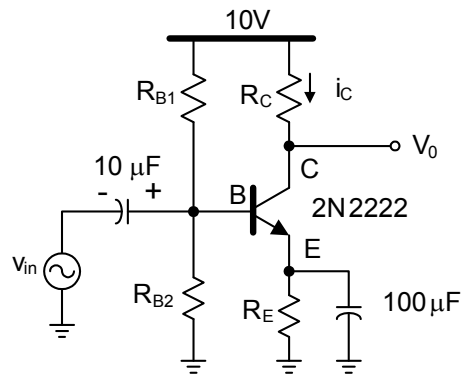
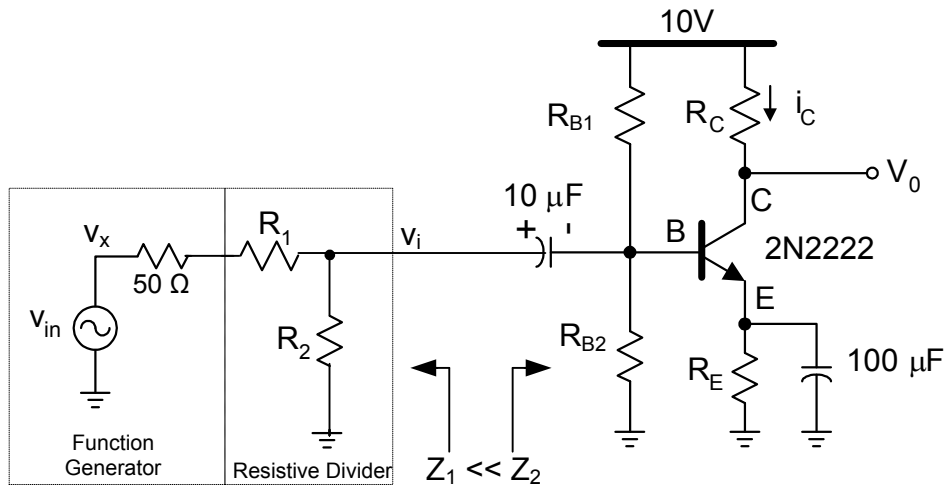

Fig. 3. Common-emitter configuration
Fig. 5. BJT CE amplifier Lab setup.
6. Find the value of the resistors for the circuit shown in Fig. 3 so that the magnitude of the small signal voltage gain is 40 dB and the DC collector current is 1 mA. Let  $\beta = 155$ . Determine the values of  $R_{B1}$  and  $R_{B2}$  so that  $R_{B1} || R_{B2} > 100$  k $\Omega$ . First, check the operating point of your design and verify that the voltage gain is approximately given by  $-g_m R_C = -\alpha R_C / r_e$ . Compute the values of the input impedance at the base and the output impedance at the collector.
8. Construct the circuit in Fig. 3 in PSpice and compare the simulated results and calculations. Explain the differences if any. Also, plot the frequency response over the range and find the low frequency and high frequency poles (adjust the frequency range until you see a lower and upper  $-3$ dB frequencies).
5. To characterize the amplifier shown in Fig. 3., apply a sinusoidal signal of 10 kHz and amplitude of 10 mV at the input of the amplifier. You may have to use a resistive voltage divider to reduce the amplitude of the signal provided by the signal generator if that cannot be as small as 10 mV. This setup is shown in Fig. 5. Use  $R_1 = 400 \Omega$  and  $R_2 = 50 \Omega$ . For  $R_{B1}$ ,  $R_{B2}$ ,  $R_C$  and  $R_E$  use the values computed in the pre-lab. Put the function generator in the 50  $\Omega$  impedance mode (not Hi-Z). The 50  $\Omega$  shown in Fig. 5 is internal to the function generator. Do not place an external 50  $\Omega$  resistor.
In this section, the BJT CE amplifier (shown in Fig. 5) is used to perform distortion measurements. The common emitter amplifier has been designed with a small signal voltage gain of 40 dB, which is 100 V/V. The amplifier is connected to supply rails between +10V and Ground. Also the voltage swing at the collector terminal is limited within a certain range (based Quiescent Voltage at the Collector in your design). It can be very easily seen that with a gain of 100 V/V, a small input amplitude at the base of the transistor can easily saturate the output of the amplifier and considerably distort the output. So, we attenuate the signal from the function generator using a resistor divider before connecting it to the base terminal of the transistor. The following steps outline how to measure the distortion performance of such a configuration.
1. We will use the circuit configuration shown in Fig. 5. The 50  $\Omega$  shown in Fig. 5 is internal to the function generator. Do not place an external 50  $\Omega$  resistor. We will use  $R_1 = 400 \Omega$  and  $R_2 = 50 \Omega$  to give us a division ratio of 0.1 from  $v_x$  to  $v_i$ .
Be careful when calculating the output peak voltage obtained using the function generator and the resistor divider circuit in Fig. 5. When the function generator's output impedance is  $50\ \Omega$ , the voltage produced *inside the function generator* ( $V_{IN}$  Fig.) is twice the value indicated on the display. You need to calculate the voltage produced at  $V_i$  accordingly. So when the function generator displays the output to be  $50\ \text{mV}_{pp}$ ,  $V_i$  can be calculated as: